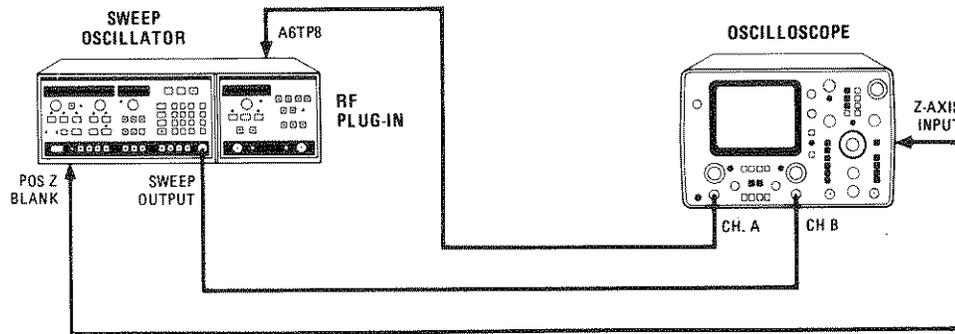

Figure 5-14. Stop Sweep Switch Point Test Setup
1. Connect equipment as shown in Figures 5-14 and 5-15.